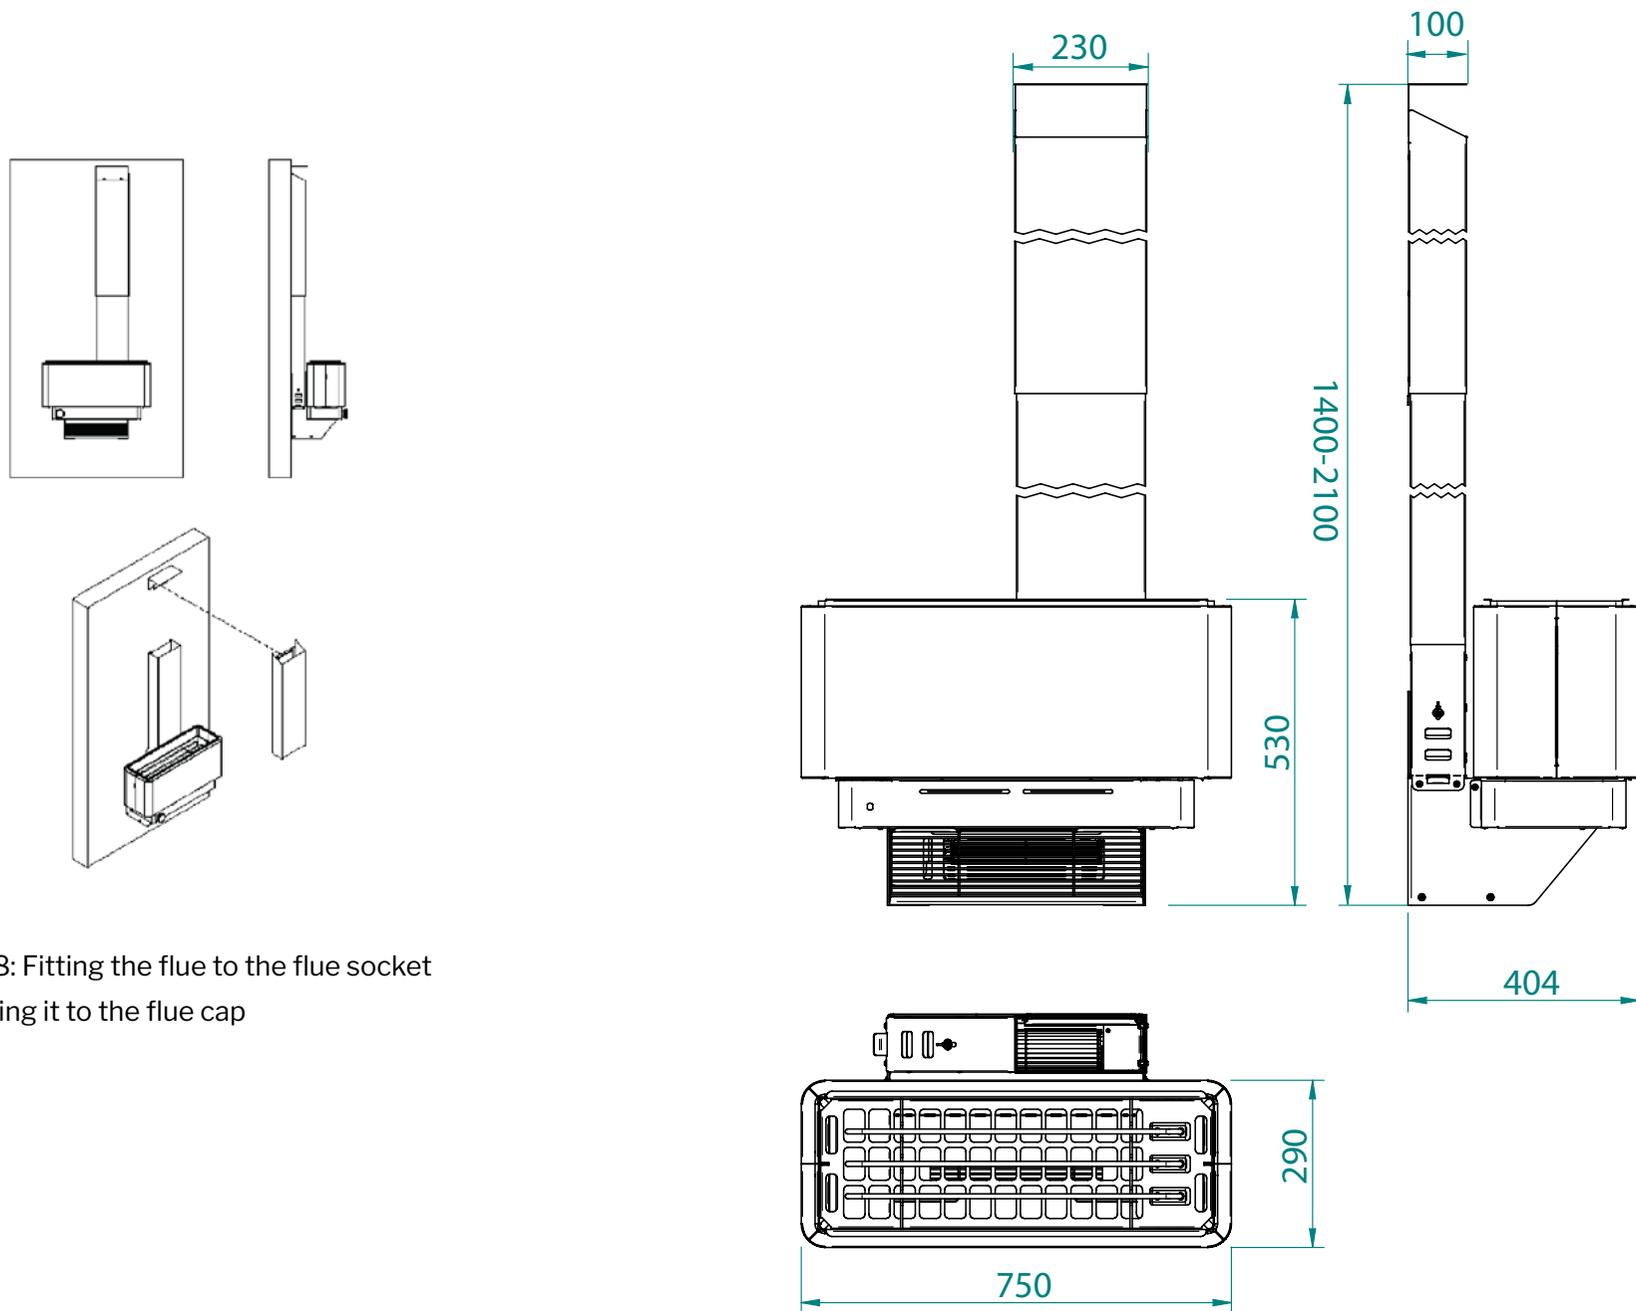

Figure 3.8: Fitting the flue to the flue socket and hanging it to the flue cap
3.2.8. Hang the upper part of the flue to the flue cap so that the upper part of the flue is connected to the lower part of the flue (figure 3.8).